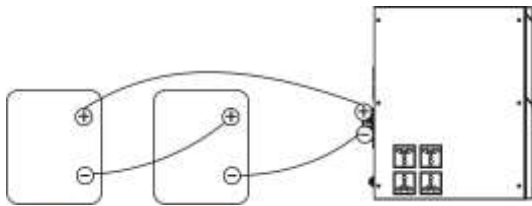

Fig 3
**2) Multiple batteries in series connection(Refer to Fig. 3):** All batteries must be equal in voltage and amp hour capacity. The sum of their voltages must be equal to the nominal DC Voltage of the unit.